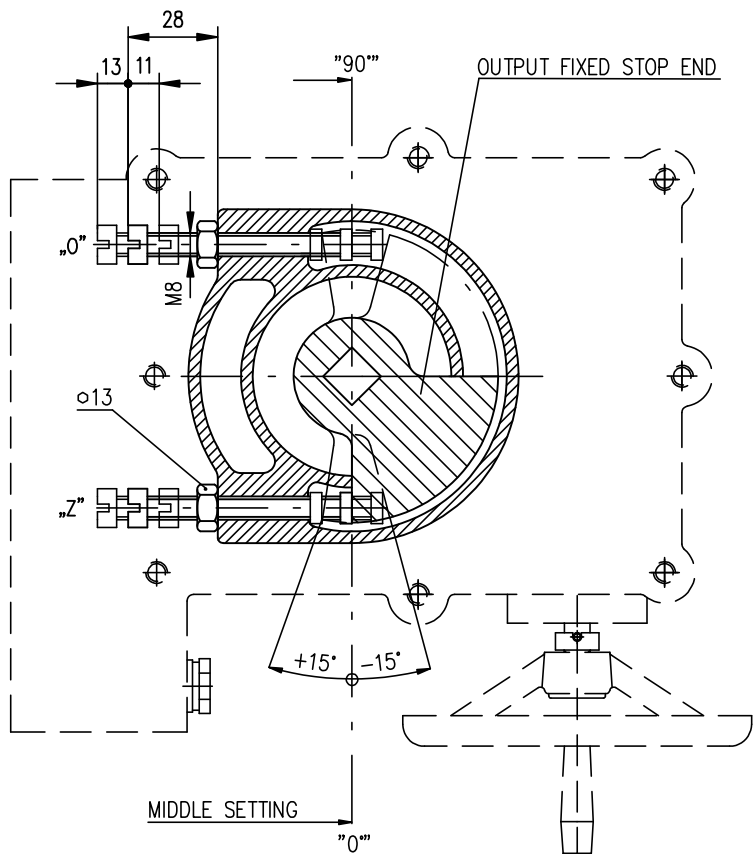

Fig. 7
**4.6.2 Setting of stop end screws at torque switching-off (Fig.7)**